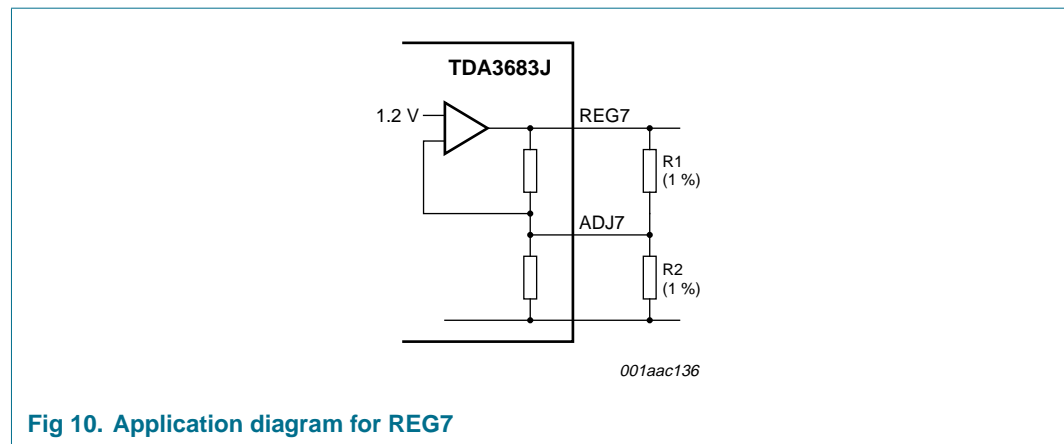

Fig 10. Application diagram for REG7
- The output voltage of regulator 7 can be adjusted between 2.4 V and 10 V using two external resistors (R1 and R2); see Figure 10. The following equation can be used for global calculations to determine the output voltage at a given value of R1 and R2;